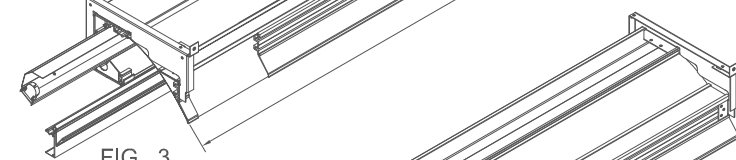

FIG. 3
5. CAREFULLY SLIDE IN SLEEVE UNTIL FIXTURE IS AT THE PROPER LENGTH TO FILL GAP IN ROW. SEE FIG. 3